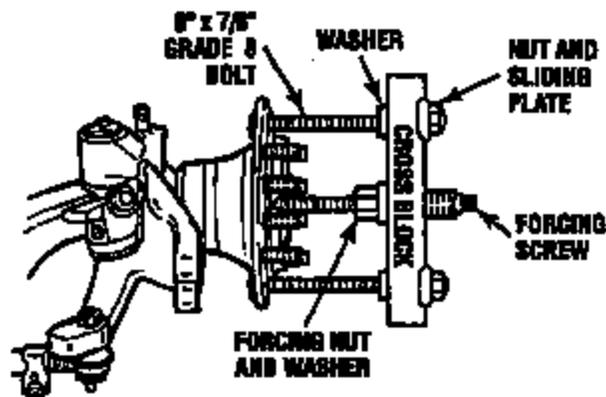

Figure 3
4. Tighten the forcing nut and washer against the cross block to apply force to the tool and separate the wheel hub unit from the knuckle spindle. Refer to Figure 3.